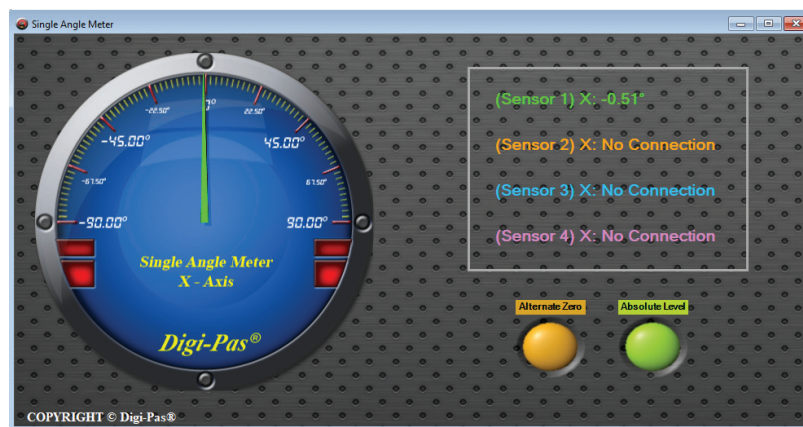

Figure 19. Interface of the PC SYNC software with Single Angle Meter feature
7. Screen as illustrated in Figure 19 appears. The feature icons are enabled and ready for selection (e.g. Single Angle Meter, Dual Angle Meter...). Following is an example when Single Angle Meter feature icon is clicked.